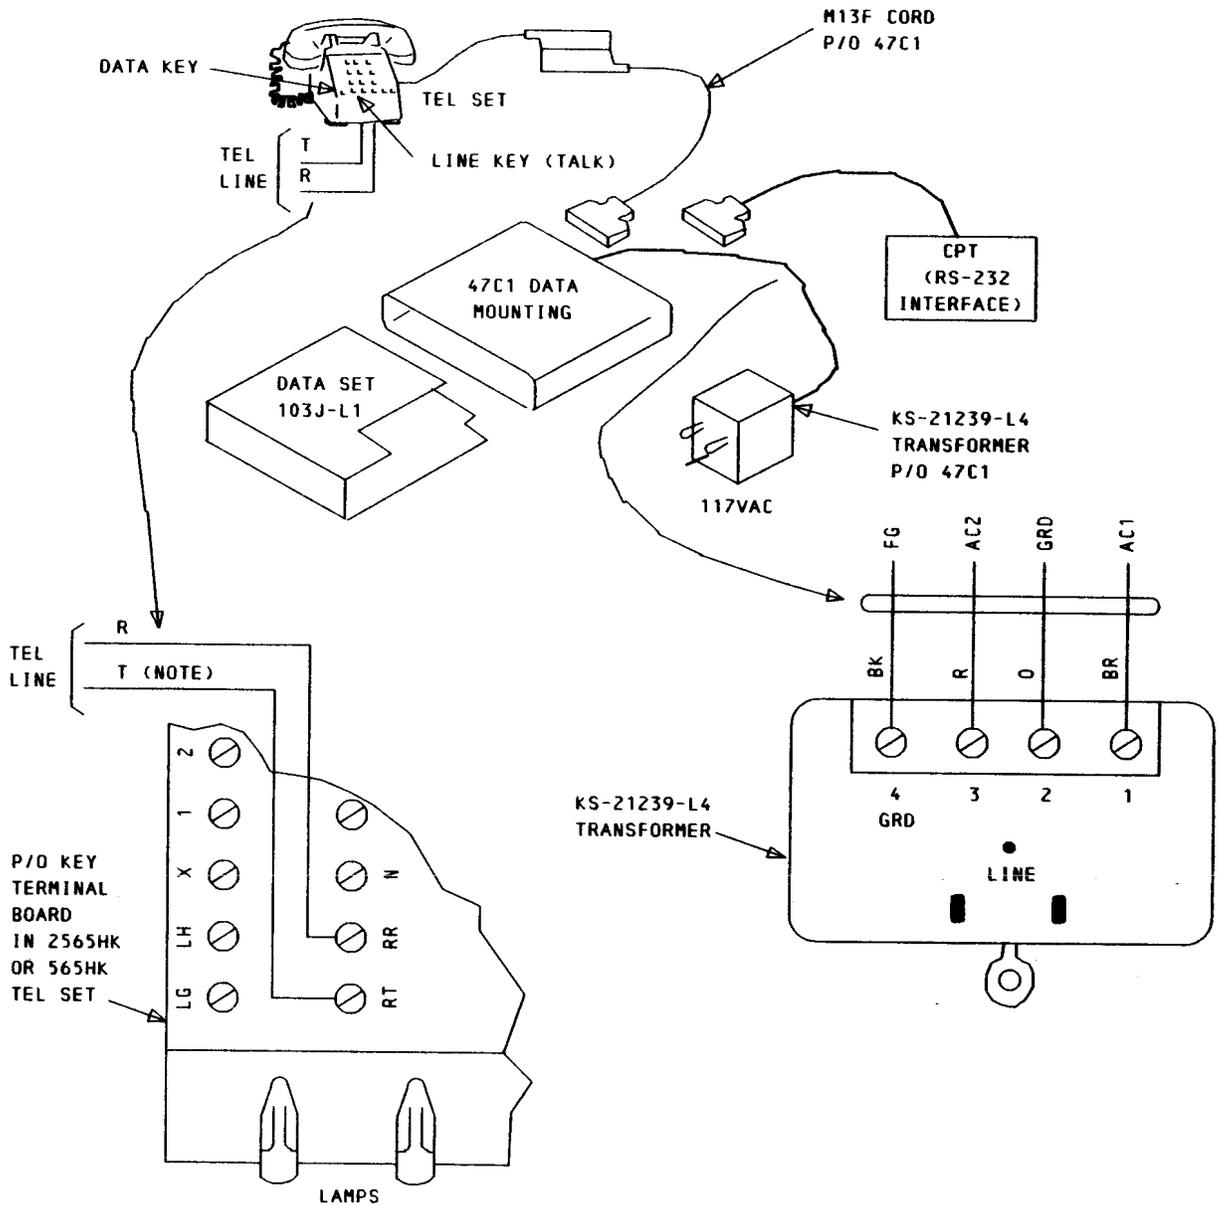

Fig. 7—Typical Data Set 103J-L1/2 Installation With 565HK Telephone Set
5.03 DS 103J-L1/2 Without ACU: When a single DS 103J-L1/2 is installed without an ACU, connect tip and ring in the associated telephone set and connect the cables as shown in Fig. 7. Figure 8 provides detailed wiring information for the single data set installation without ACU. This information is useful in troubleshooting.